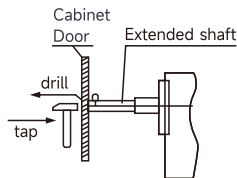

Figure 26
(4)As shown in Figure 26: Use a hammer to lightly tap the contact point between the cabinet door and the top of the extension shaft from outside the cabinet to determine the drilling center, and drill holes from the inside of the cabinet door outward at the drilling center $\Phi 6$, and re-expand the hole $\Phi 30$.